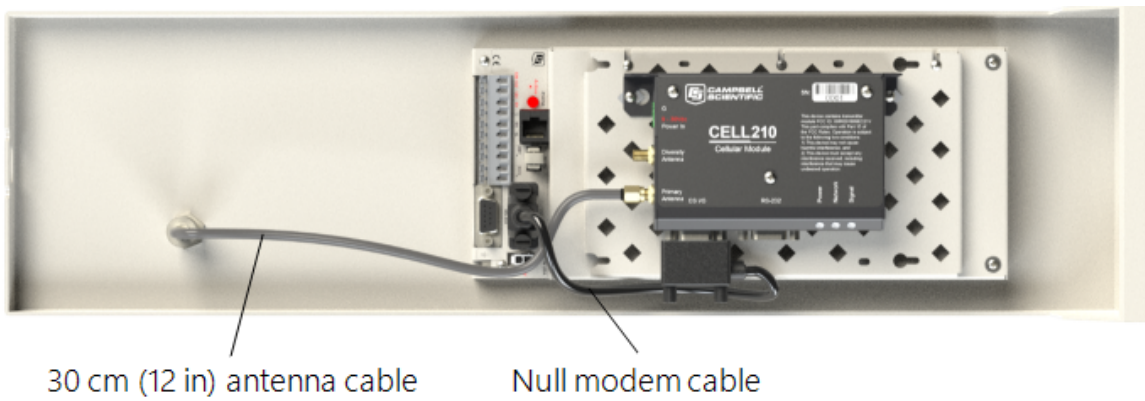

FIGURE 6-38. Cellular modem mounted inside the ET107 (power supply not shown)
2. Thread the smaller SMA connector end of the internal antenna cable underneath the battery cables and screw it to the RF antenna connector on the cellular modem (FIGURE 6-38 (p. 54)).
4. Use the null modem cable to connect the cellular modem's serial port to the ET107 RS-232 9-pin port (FIGURE 6-38 (p. 54)).
6. Insert the red wire on the power cable into either the SW-12 or 12V terminal on the ET107 (FIGURE 6-38 (p. 54)).
7. Insert the black wire on the power cable into the terminal on the ET107 (FIGURE 6-38 (p. 54)).